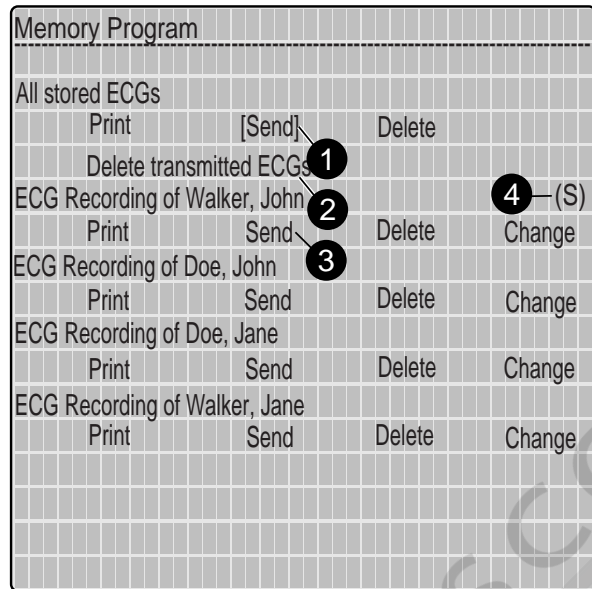

Figure 5-5. Memory program
The recorder is also capable of transmitting stored ECGs (if MEMO option is installed). To retrieve ECGs from memory, hold down while pressing . You will see the memory menu (Figure 5-5).
- To transmit all stored ECGs in one pass, position the cursor on "All stored ECGs - Send" (1, Figure 5-5), to transmit individual ECGs, position the cursor on the "Send" command of that ECG (e.g. 3, Figure 5-5).
- ECGs that were successfully transmitted are identified with the letter "S" (for "Sent", 4, Figure 5-5).
The system identifies ECGs that were successfully sent to the host system with the letter "S" (4, Figure 5-5). All of these ECGs can be deleted with the command "Delete transmitted ECGs" (2, Figure 5-5).